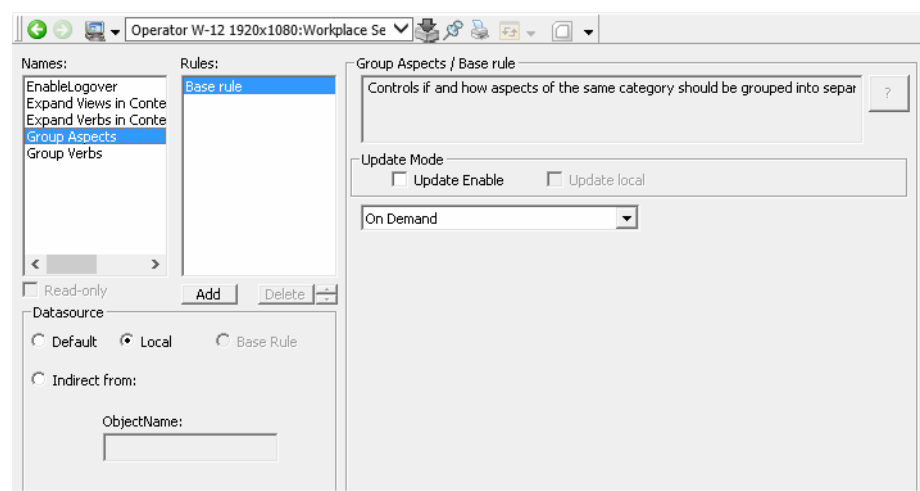

Figure 125. Profile Values Aspect Dialog Box
4. In the Profile Values dialog box (see Figure 125):